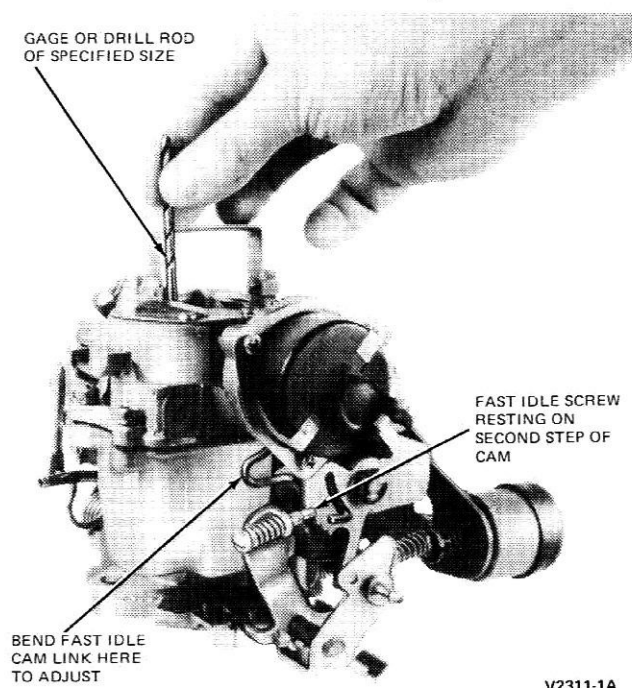

FIG. 12 Fast Idle Cam Position Adjustment
A fast idle speed is provided to help prevent stalls after cold engine starts. Fig. 12 shows the proper position of the fast idle cam and the contact point of the adjusting screw for fast idle speed adjustment and fast idle cam position adjustment. Turn the adjusting screw clockwise to increase fast idle speed.
Fast idle cam position adjustment is necessary to make sure the fast idle screw contacts the various steps of the fast idle cam at the proper time during engine warm-up (Fig. 12). This adjustment can be made with the carburetor on the engine (with the engine off) or with the carburetor removed from the engine.
2. Check the fast idle cam setting using the specified size gage or drill bit between the upper edge of the choke plate and the wall of the air horn (Fig. 12).